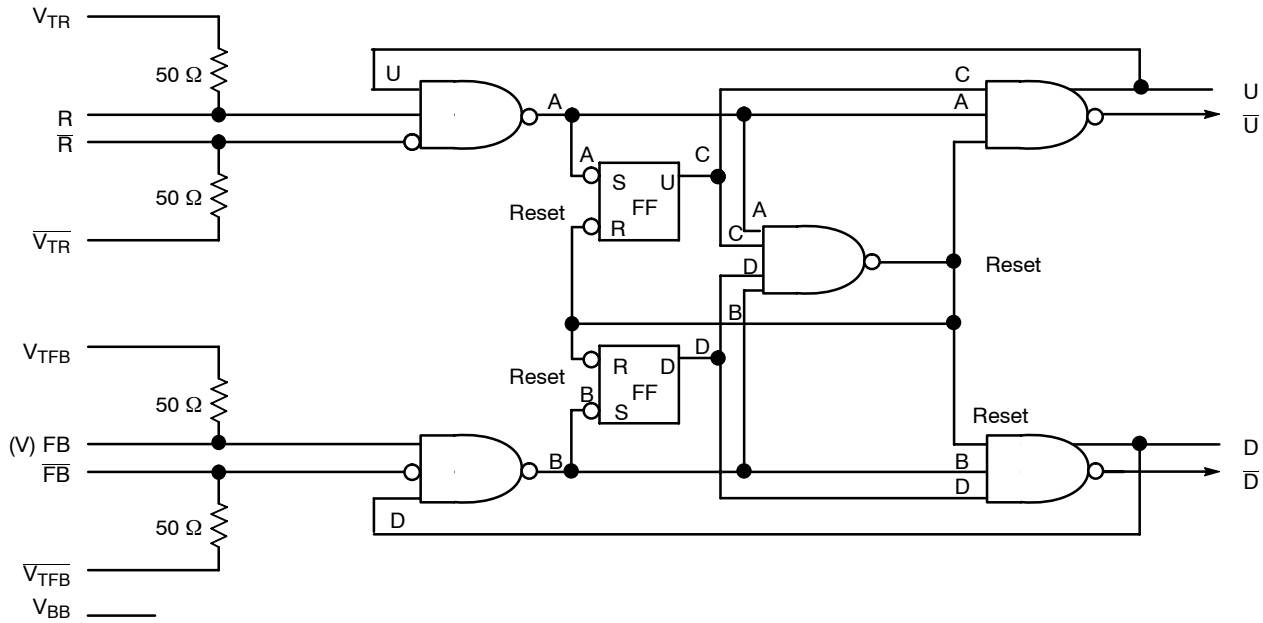

Figure 2. Logic Diagram
When Reference (R) and Feedback (FB) inputs are 80 ps or less in phase difference, the Phase Lock Detect pin will indicate lock by a high state (V_{OH}). The V_{TX} (V_{TR} , $\overline{V_{TR}}$, V_{TFB} , $\overline{V_{TFB}}$) pins offer an internal termination network for 50 Ω line impedance environment shown in Figure 2. An external sinking supply of $V_{CC}-2$ V is required on V_{TX} pin(s). If you short the two differential V_{TR} and $\overline{V_{TR}}$ (or V_{TFB} and $\overline{V_{TFB}}$) together, you provide a 100 Ω termination resistance that is compatible with LVDS signal receiver termination. For more information on termination of logic devices, see AND8020.